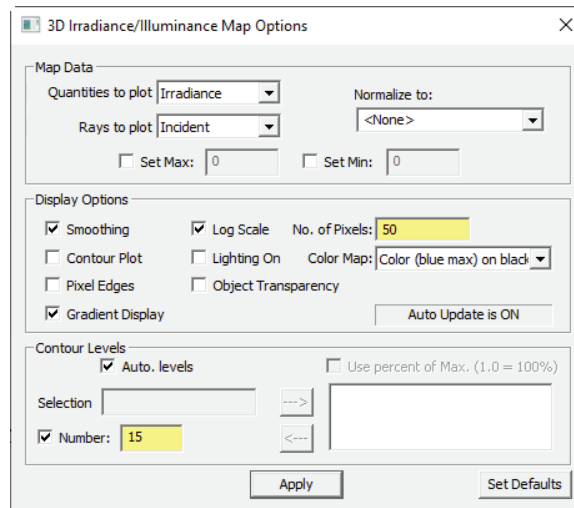

Figure 15. 3D Irradiance/Illuminance Map with options set
4. Select **Analysis | 3D Irradiance/Illuminance Options** and adjust the setting as shown in Figure 15.